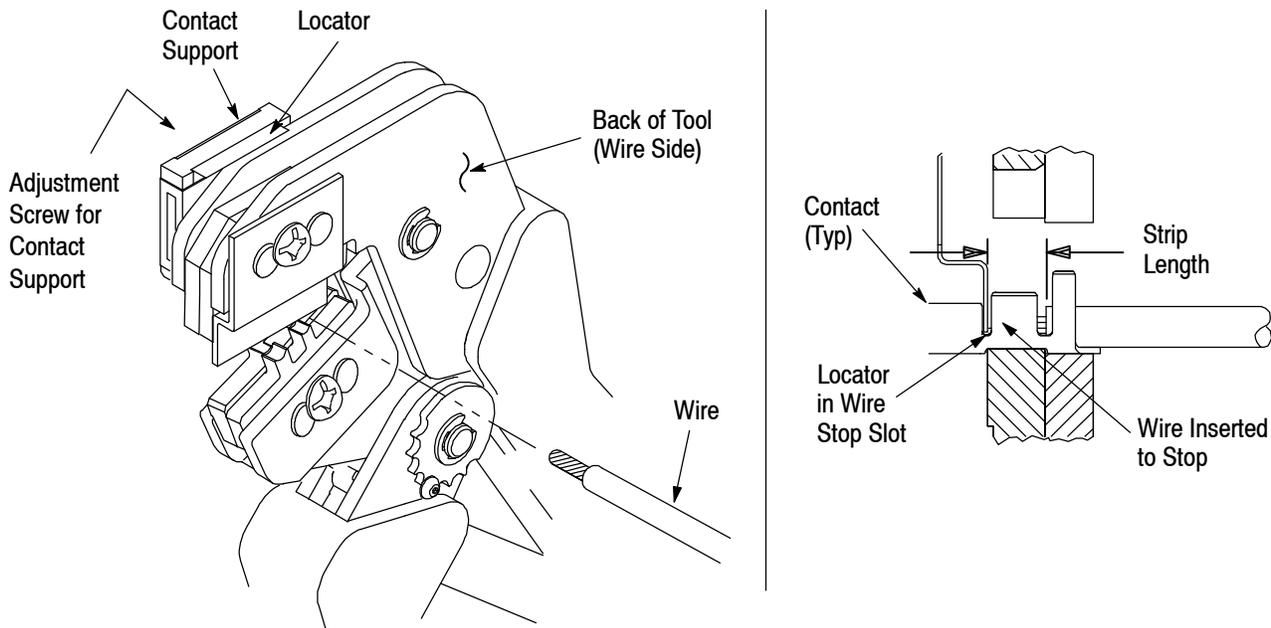

Figure 3
4. CONTACT SUPPORT ADJUSTMENT (Figure 3)
Refer to the table in Figure 1 and select wire of the specified size and insulation diameter. Strip the wire to the length indicated in Figure 1, taking care not to nick or cut wire strands. Select an applicable contact and identify the appropriate crimp section according to the wire size markings on the tool. Refer to Figure 3 and proceed as follows:
2. Position the contact so that the mating end of the contact is on the locator side of the tool, and so that the open “U” of the wire and insulation barrels must face the top of the tool. Place the contact up into the nest so that the movable locator drops into the slot in the contact. Refer to Figure 3. Butt the front end of the wire barrel against the movable locator.
5. Insert stripped wire into contact insulation and wire barrels until it is butted against the wire stop, as shown in Figure 3.
NOTE The crimped contact may stick in the crimping area, but the contact can be easily removed by pushing downward on the top of the locator (see Figure 3).